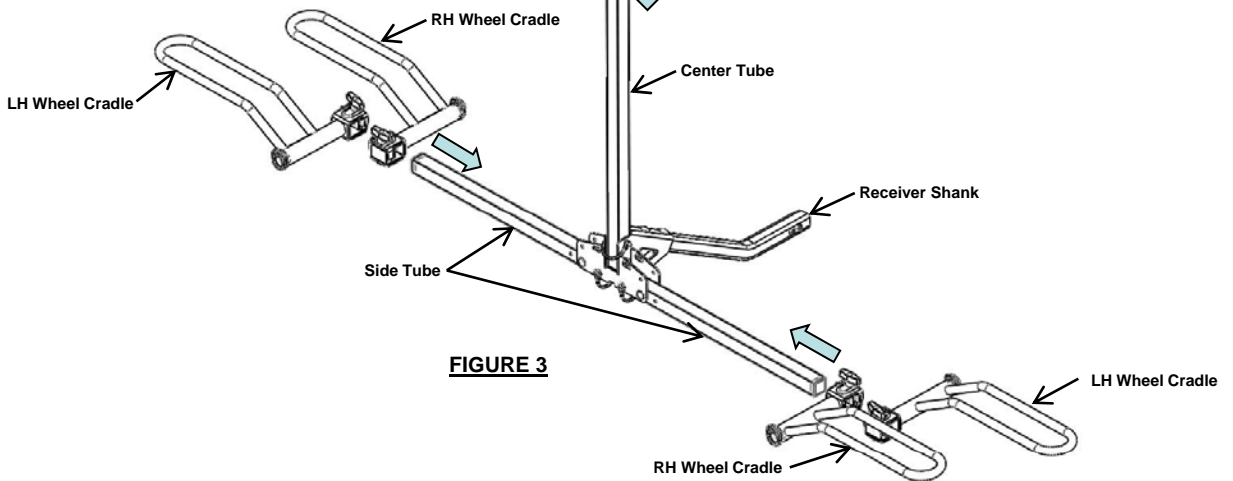

FIGURE 3
3. Slide Wheel Cradle assemblies on side tubes as illustrated. (Fig 3)
4. Slide Frame Hook assemblies on center tube as illustrated. (Fig 3)